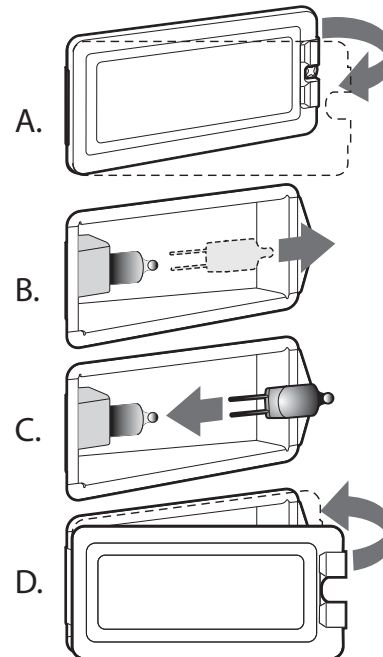

Figure 34: Bulb Replacement
3. Slide the tip of a flat blade screw driver between the fixing clip and the lamp housing (*Figure 34, A*).
6. Remove the bulb by grasping and sliding the bulb straight back until the two prongs have cleared the ceramic holder (*Figure 34, B*).
8. Press down to seat the bulb (*Figure 34, C*).
9. Slide the protective lens into the holder clip and push the other end until the fixing clip snaps back into the housing (*Figure 34, D*).